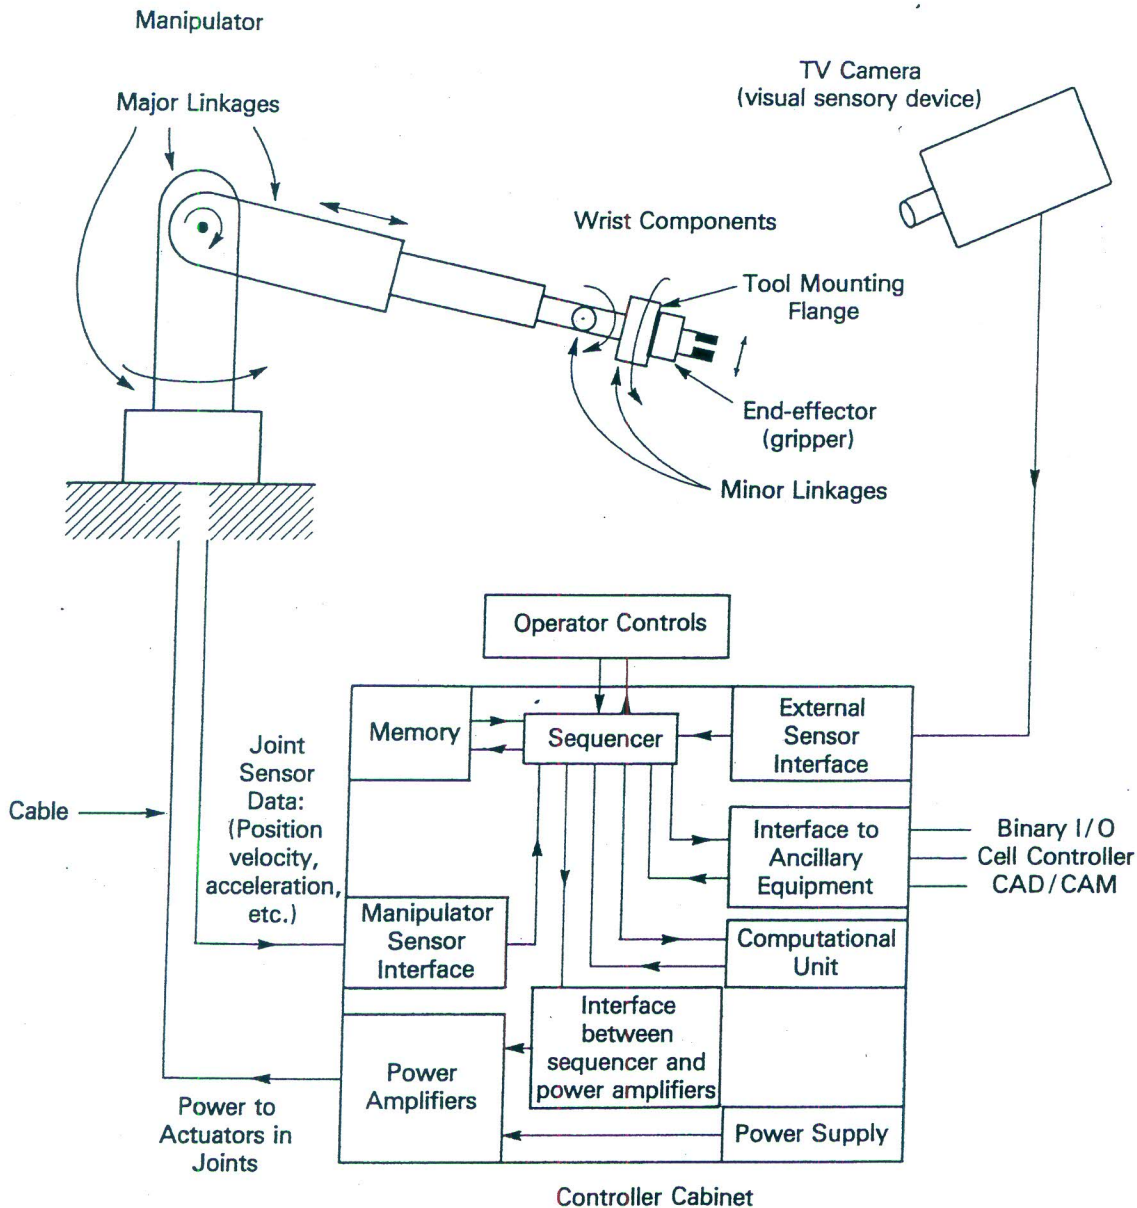

Figure 2.2.2. Subsystems of robot components.
- 2.1 Investigate the architecture of some commercial robots and their controllers. Compare the functionality of the commercial units to the general subsystems shown in Figure 2.2.2. PBB COMPUTER + ARM + CAMERA